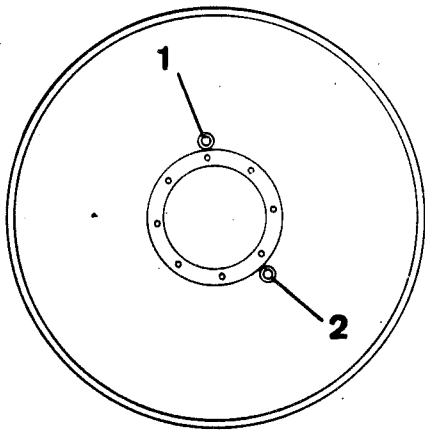

Fig 29 Roller position when filling
- 3 Drive the machine so that the drain plug (1) is in the highest position.
- 4 Replenish with oil type D according to the lubricant chart, see page 1, to half way up the sight glass. See figure 29.